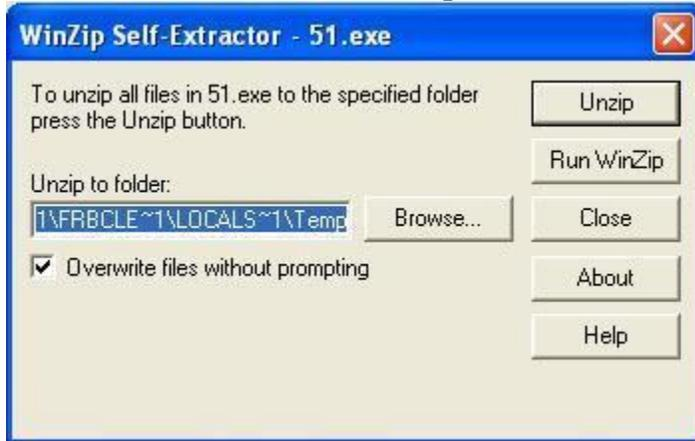

Figure 2.4.7
5. The Winzip self-extractor archive window opens. (Figure 2.4.7) Specify a file location if different from the default and click **'Unzip'**.